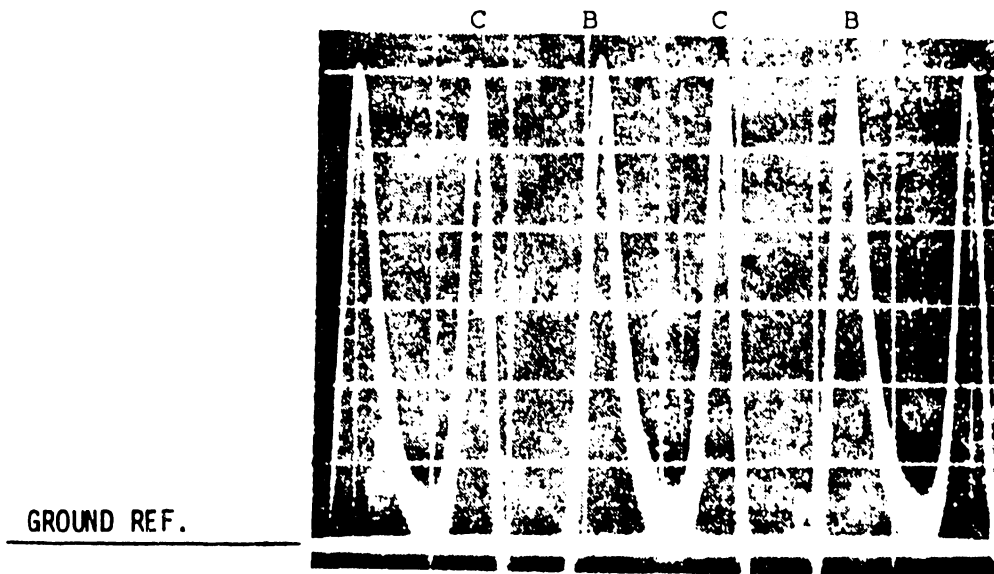

FIGURE 3-9 HEAD ALIGNMENT WAVEFORM - (Head Aligned)
17. Adjust trigger level and observe waveform on channel 1. Compare with Figures 3-9 and 3-10.
19. If pattern is not identical to Figure 3-9, adjust upper head as follows:
- c) Using this tool, move head forward or reverse very slowly until a waveform similar to Figure 3-9 is obtained.
20. Set a ground reference line at the bottom of the scope. (Figure 3-9)